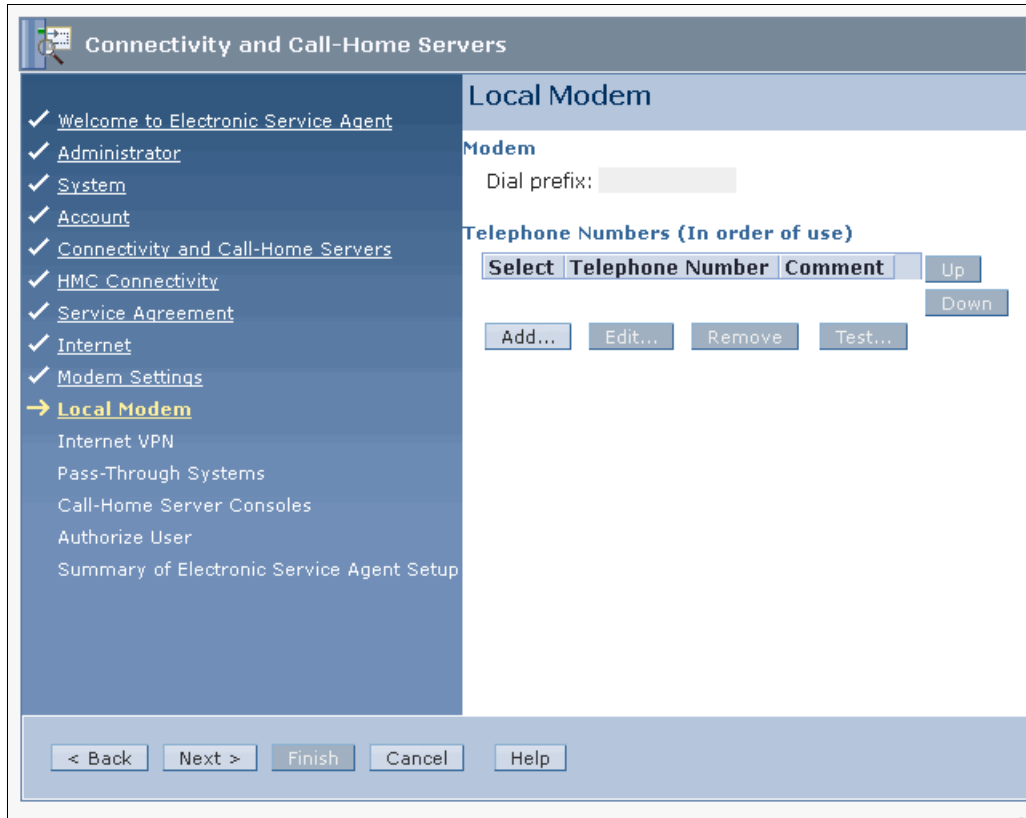

Figure 3-25 Configure local modem
36. Call Home Setup Wizard: The Configure Local Modem panel is shown in Figure 3-25.